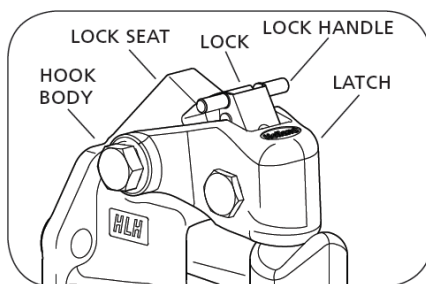

Figure 6.9
- Open the latch by rotating the latch assembly up toward the vehicle until the latch is in its most upright position, then release the lock handle. (Figures 6.9 and 6.10)